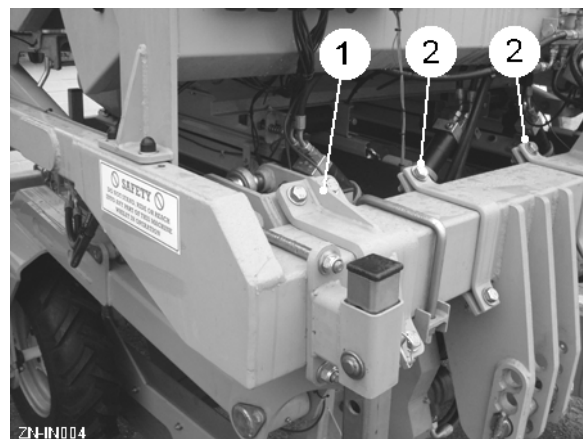

Fig 5
Loosen the axle mounting clamps (item 1, fig 5) and slide the wheel unit out to the desired position symmetrical about the centre of the machine. Finally, retighten the clamps.